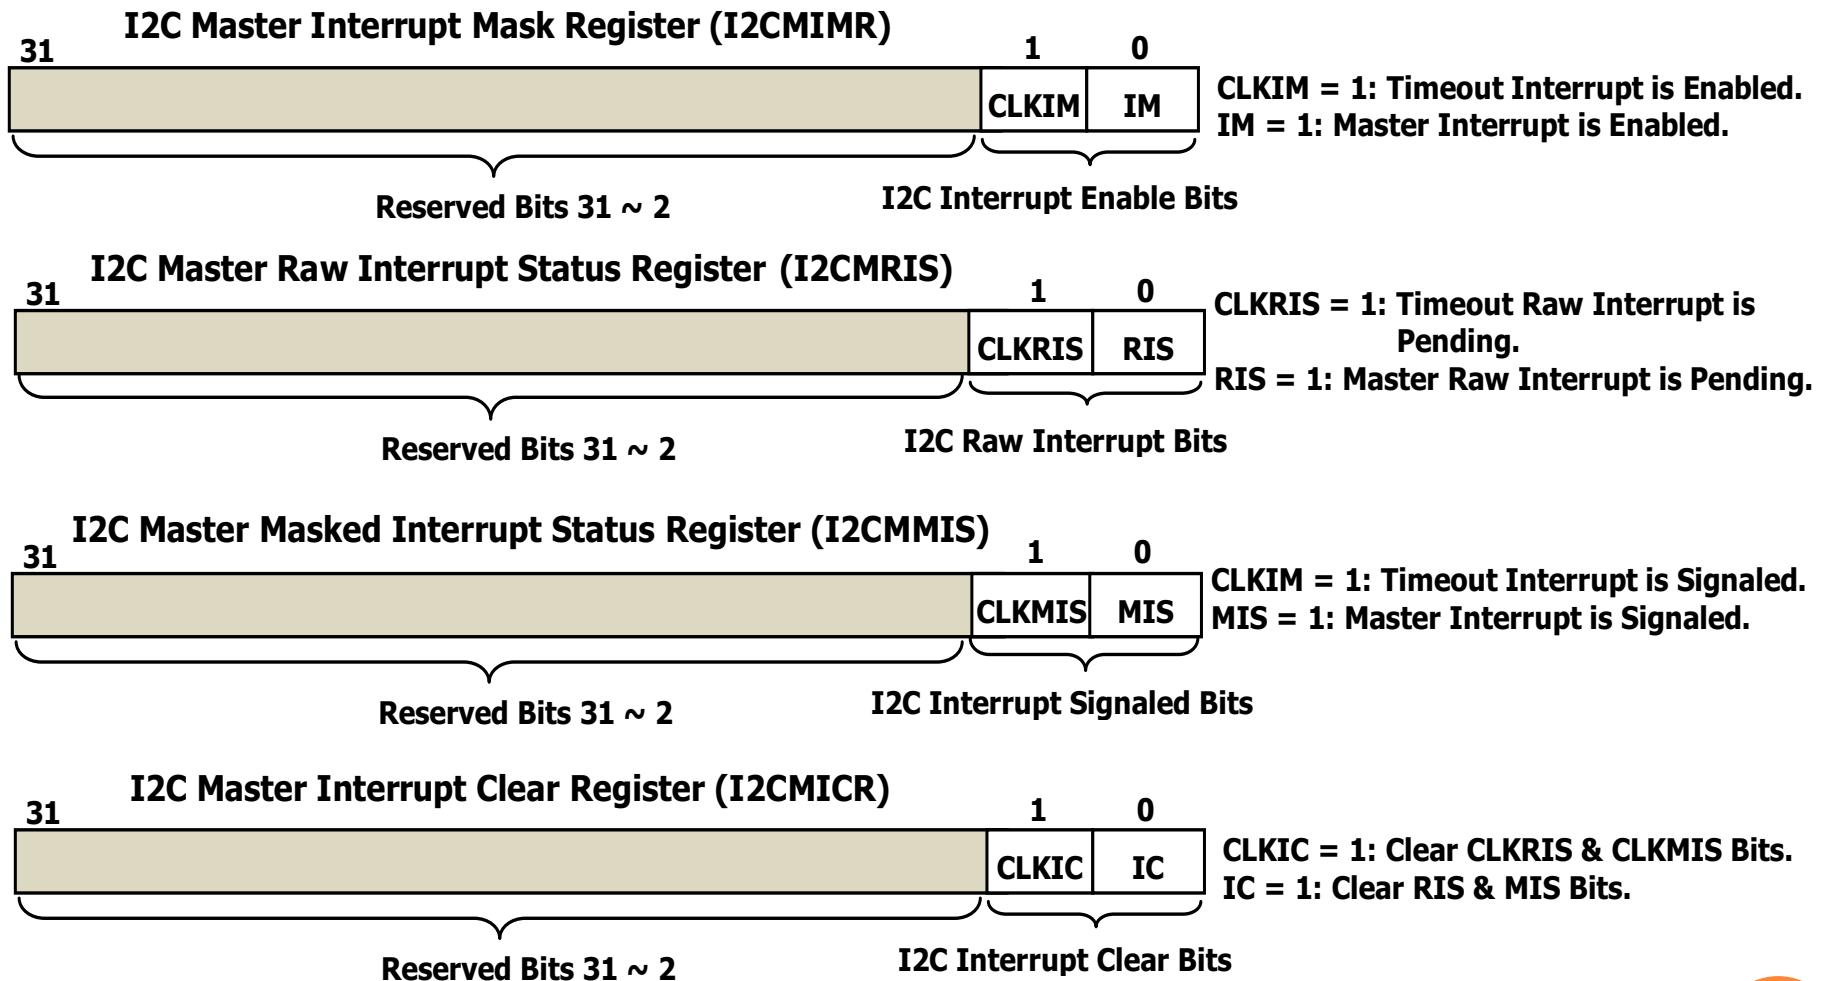

Figure 8.54 Bit functions of four I2C master interrupt registers.
- Figure 8.54 (next slide) shows these four I2C master interrupt registers' bit functions.